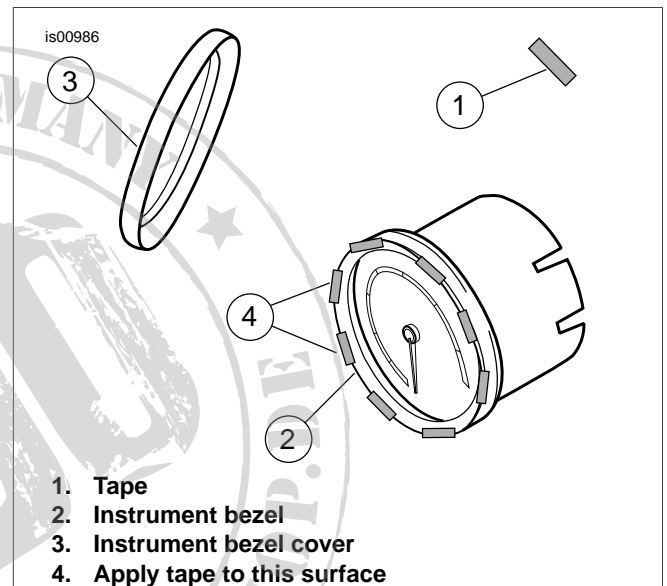

Figure 1. Chrome Instrument Bezel Installation
1. See Figure 1. Cut tape (1) into eight equal pieces.